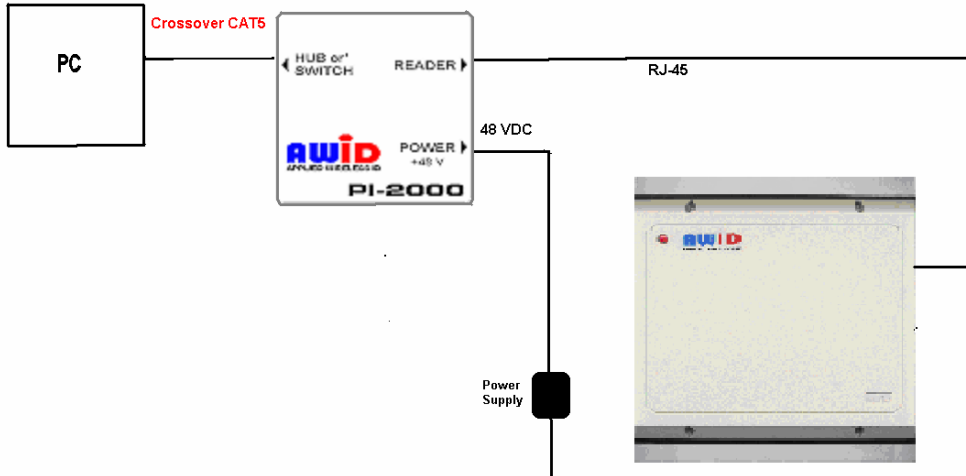
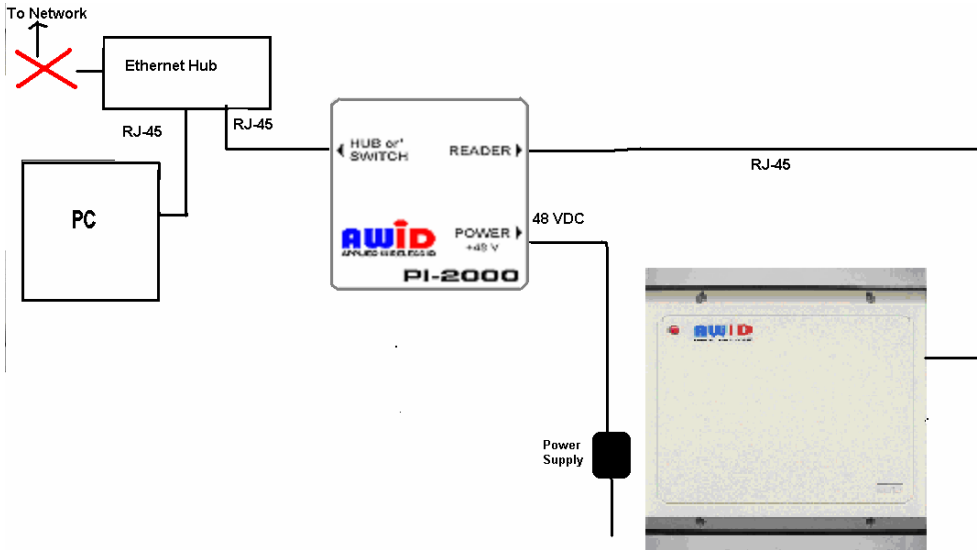

Figure 6 Local Set Up without Ethernet Hub
Figure 7 Local Set Up with an Ethernet Hub
- If switch is PoE, connect network cable to just one (1) MPR-2010AN/BN unit. Skip the next two steps unless the IP address of connected unit cannot be obtained.
- Follow instructions on Local Set Up (Figure 6 or Figure 7) of an MPR-2010AN.